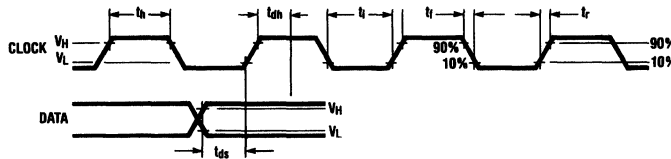

FIGURE 3
*Figure 3* shows the timing relationship between data, clock and data enable. A maximum clock frequency of 0.5 MHz is assumed.